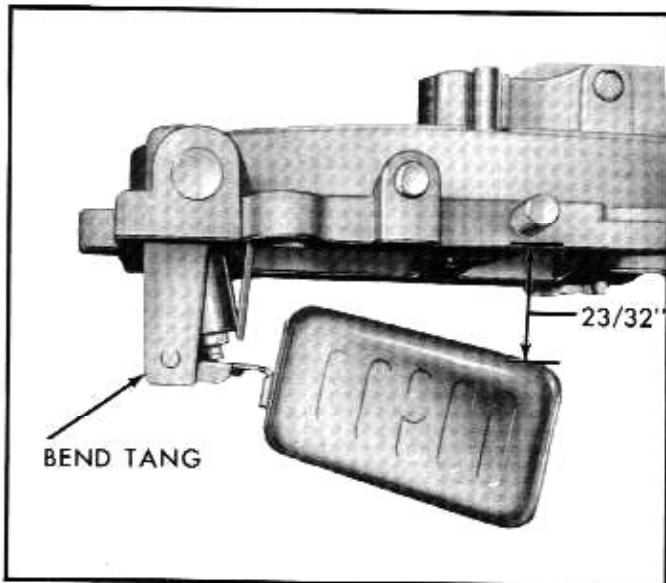

Fig. 9E-25—Float Drop Adjustment
- (c) **FLOAT LEVEL ADJUSTMENT:** With air horn inverted, air horn gasket in place and needle seated, there should be $5/32$ " clearance between outer end of each float and air horn gasket. Use gauge 9550-J (T109-154). See figure 9E-24.
(d) **FLOAT DROP ADJUSTMENT:** With air horn held in upright position and measuring from outer end of each float, the distance between top of floats and air horn gasket should be $21/32''$ - $23/32''$. See figure 9E-25. To adjust, bend stop tangs on float brackets.